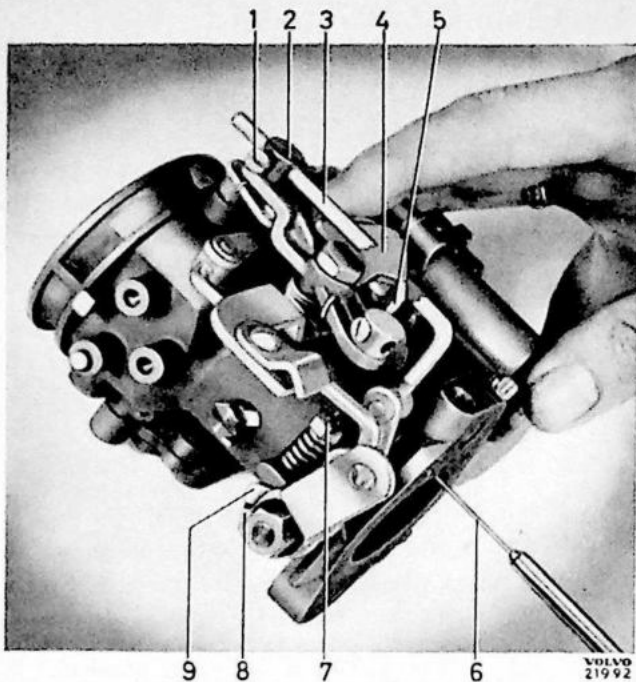

Fig. 72. Adjusting rapid idling.
1. Place a 1.3 mm wire gauge between the throttle and the wall of the carburetor throat on the idling air jet side, Fig. 72. Make sure that the wire gauge does not come into contact with the venturi.
2. Loosen the screw (1) for the attachment (2).
3. Close the choke flap completely and move over the cam-shaped lever (4) until it is in contact with the stop (5).
4. With the lever against the stop and the wire gauge in the throttle as described in point 1 above, adjust the link rod (3) so that the check (9) on the lower lever just contacts the throttle lever (8) and then lock the link rod by means of the screw (1).
1. Screw out the idling adjuster screw (7, Fig. 72). Remove the spring, screw in the screw so far that the throttle just begins to open (a paper between the screw and the check starts to jam). Then screw in the screw 3 2/3 turns corresponding to the opening occurring when the wire gauge mentioned in point 1 above was inserted in the throttle.
2. Pull out the choke control on the instrument panel as far as it will go and check that the cam-shaped lever (4) contacts the stop (5). If the setting is correct the check (9) on the lever should just contact the stop on the throttle lever (8). Adjust, if required, by means of the screw (1) for the link rod (3).
2. Adjust the idling speed to 400—600 r.p.m. by means of the screw (7, Fig. 72), for idling speed.
4. Adjust the idling speed by means of the screw (7, Fig. 72) if necessary.